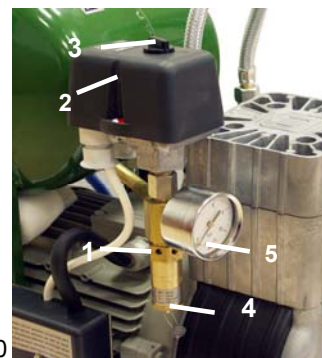

Fig.10
(Fig.10)
If the compressor will not be used for a prolonged time period, drain any condensate from the air tank. Then turn on the compressor for 10 minutes, keeping the drain valve open (1) (Fig.11, Fig.12). Switch off the compressor by switch (3) at pressure switch (2) (Fig.10), close the drain valve and disconnect the appliance from the mains.